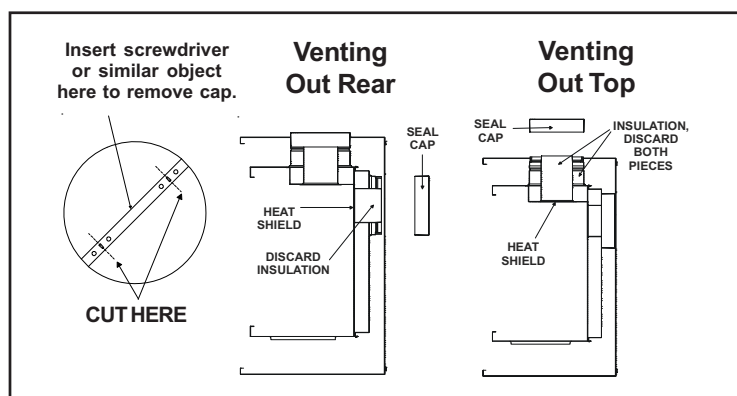

Figure 15
Remove the installed rear seal cap from the rear starting collars by cutting the strap at each end (See Figure 15). Follow the flue configuration tables accordingly.
**WARNING: THE TOP HEAT SHIELD (INSIDE THE FIREBOX) MUST REMAIN ATTACHED IF THE FLUE SYSTEM IS ATTACHED TO THE REAR STARTING COLLARS. SEE FIGURE 15.**
Remove the top flue collar seal cap by cutting the strap on each end. Remove both pieces of insulation inside the top two starting collars (see Figure 15).
**WARNING: THE REAR FLUE COLLAR SEAL CAP MUST REMAIN ATTACHED TO THE REAR FLUE COLLARS IF THE FLUE SYSTEM IS ATTACHED TO THE TOP STARTING COLLARS. SEE FIGURE 15.**